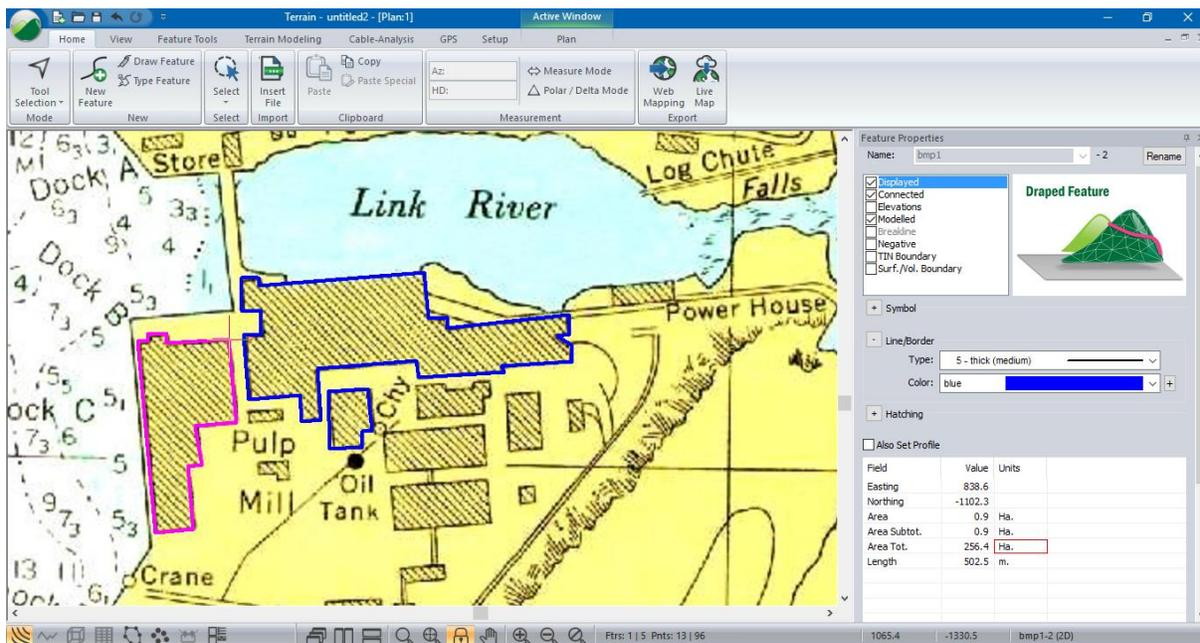

Figure 4-7: Traced Buildings with Status Details in the Feature Property Panel
17. Trace around the boundary of three of the buildings using the mouse (like in Figure 4-7):
- Select each building perimeter with the mouse and look at the *Status* portion of the *Feature Properties* window. (Figure 4-7). If the panel is not currently showing, select  from the bottom navigation bar, or *View* | *Add to Panel* | *Feature Properties*.